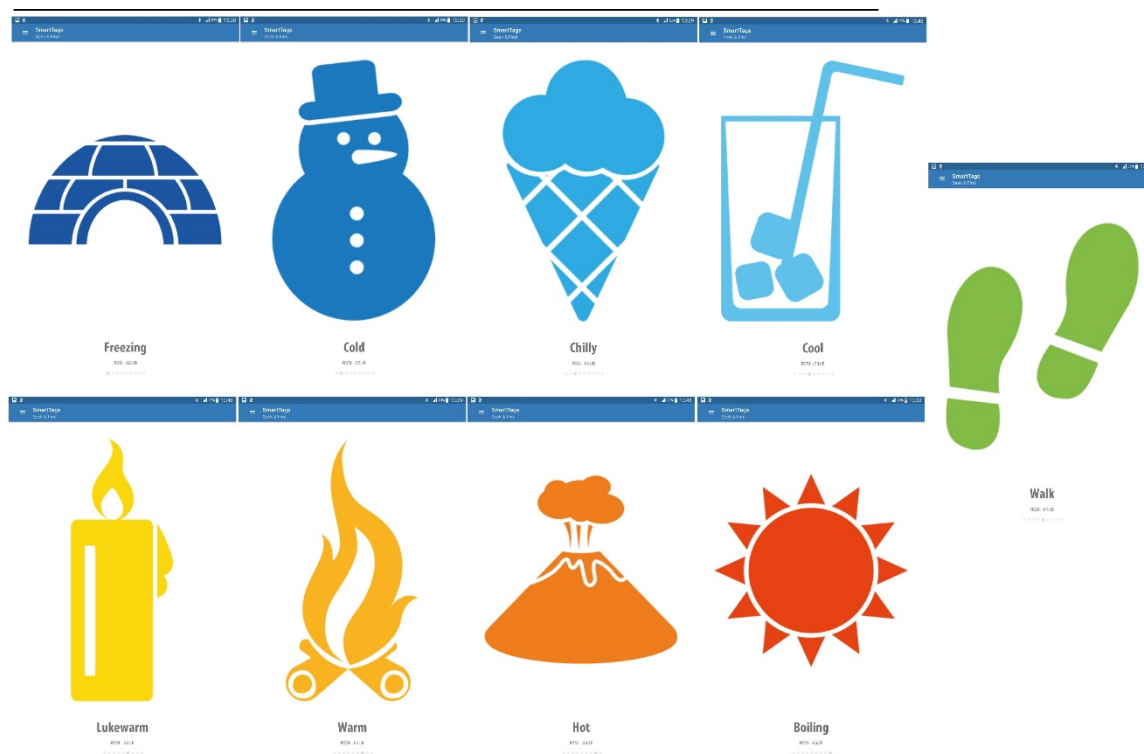

Figure 39: Seek & Find screens
- The application changes states and displays an image according to the RSSI-based estimate of the distance of a device with a Smart Tag. The app changes to a warmer state when it approaches a device with a Smart Tag, while it changes to a colder state when it becomes further from a device with a Smart Tag. The various “Seek & Find” screens are shown in Figure 39.